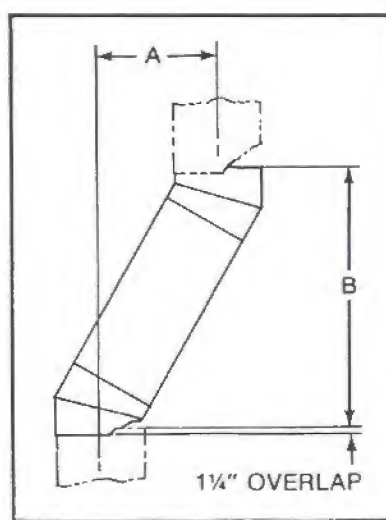

Figure 12
Figure 12 and Table 1 enable selection of the appropriate chimney components when using Offsets and Returns.
1. Determine amount of offset required to extend the chimney through a wall or around an obstacle. See Figure 12, dimension "A".